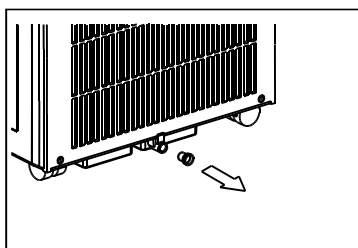

Fig.24
- When the water level of the bottom tray reaches a predetermined level, the unit beeps 8 times, the digital display area shows "P1". At this time the air conditioning/dehumidification process will immediately stop. However, the fan motor will continue to operate(this is normal). Carefully move the unit to a drain location, remove the bottom drain plug and let the water drain away(Fig.24). Restart the machine and wait for the "P1" symbol to disappear. If the error continues, call for service.
- Remove the plug from the bottom drain outlet, all the water in the bottom tray should drain out (See Fig.24).